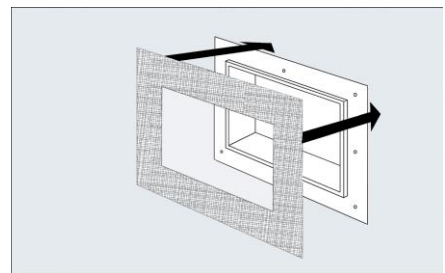

Fig. 4
STEP 6: Starting by folding down 30mm of the backing release paper at the top edge, apply the Connection Sheet over the entire Niche face and onto the primed wall board area. Press firmly to ensure total adhesion. (Fig 4).